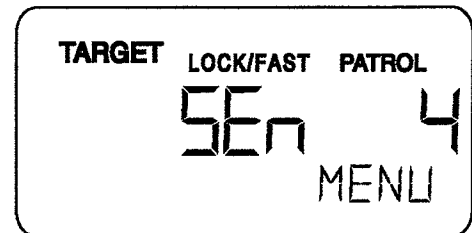

Fig. 3
The sensitivity of *STALKER II* is adjusted by pressing the **MENU** key a second time. The ▲ and ▼ keys then cycle through the five (5) sensitivity levels: **SEN 0**, **SEN 1**, **SEN 2**, **SEN 3**, and **SEN 4** (Fig. 3 shows sensitivity level 4, the factory default setting). In each case, the right-hand display refers to the current sensitivity setting. Sensitivity varies from **SEN 0** (0 range) to **SEN 4** (maximum range). Press the trigger to exit the Operator Menu.